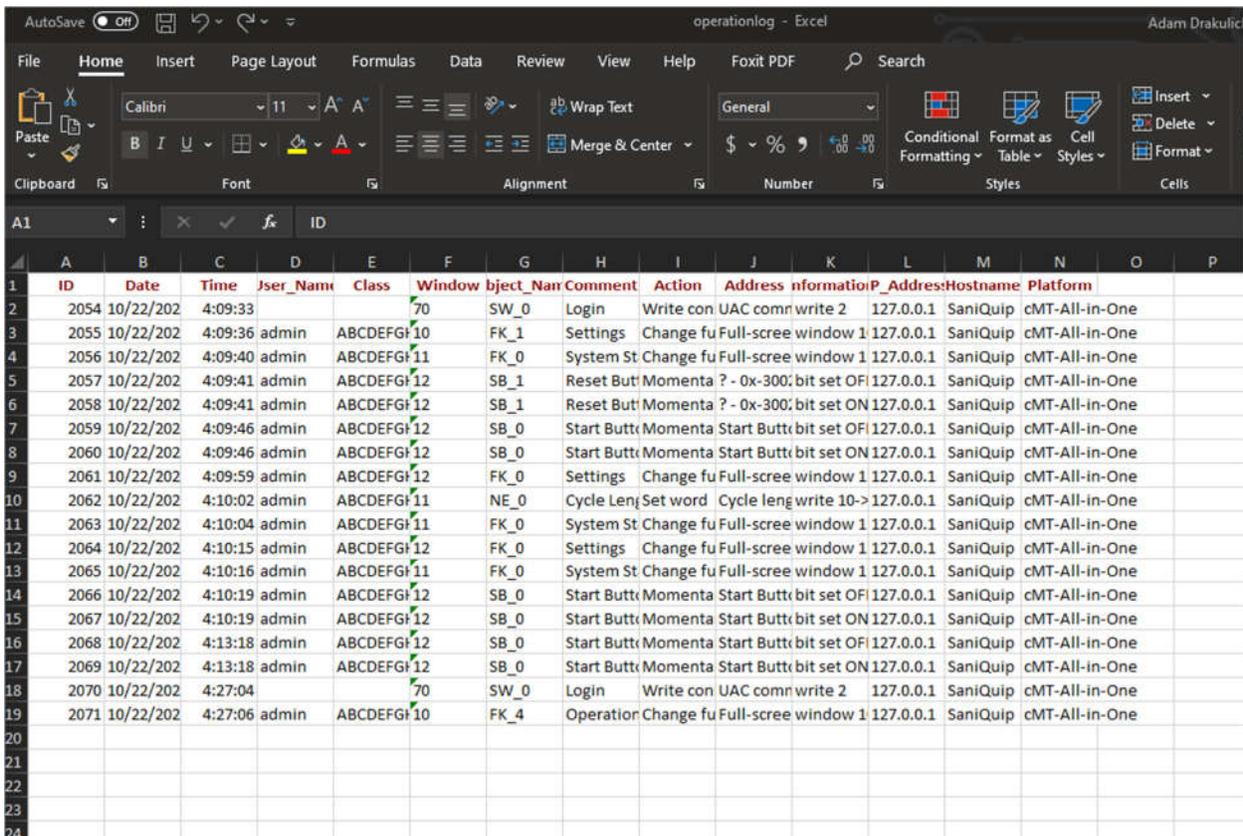

Fig. 32 Converted data in Excel
14. Once the conversion is complete, Microsoft Excel will automatically open the new .csv file. This will look similar to the screen shown in fig. 32 depending on the file you converted. You may need to adjust some of the column sizes to make the data easier to use.
15. Depending on which data file is converted, there will be some extra data columns that should be deleted from the Excel file to make it easier to use. For example, the converted file shown in fig. 32 was an “operation log” file. With this file type the following columns should be deleted or hidden: